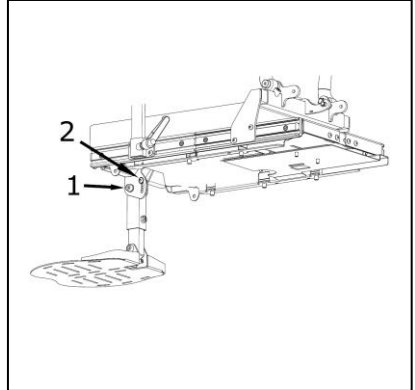

Figure 4.8
**Legrest Angle setting (fig 4.8).**
1. Loosen the bolt (1).
2. Remove the bolt (2)